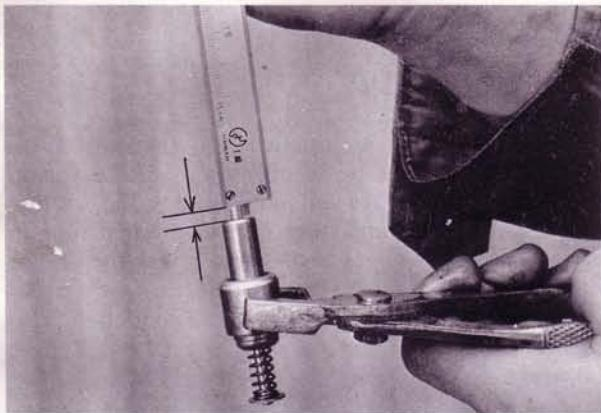

Fig. 2-15 Checking by-pass valve
2. Soak the by-pass valve in hot oil of $75^\circ\text{C} \sim 80^\circ\text{C}$ ($167^\circ\text{F} \sim 176^\circ\text{F}$). If the protrusion of piston is more than 5 mm (0.2 in), the by-pass valve is normal. (Fig. 2-15)